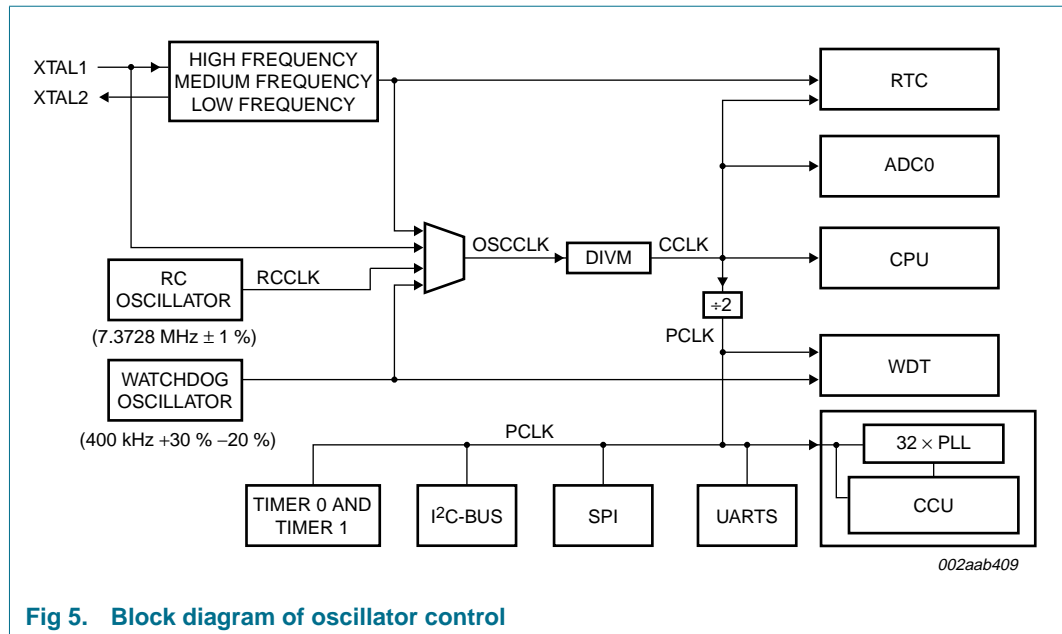

Fig 5. Block diagram of oscillator control
**OSCCLK** — Input to the DIVM clock divider. OSCCLK is selected from one of four clock sources (see Figure 5) and can also be optionally divided to a slower frequency (see Section 7.8 “CCLK modification: DIVM register”).